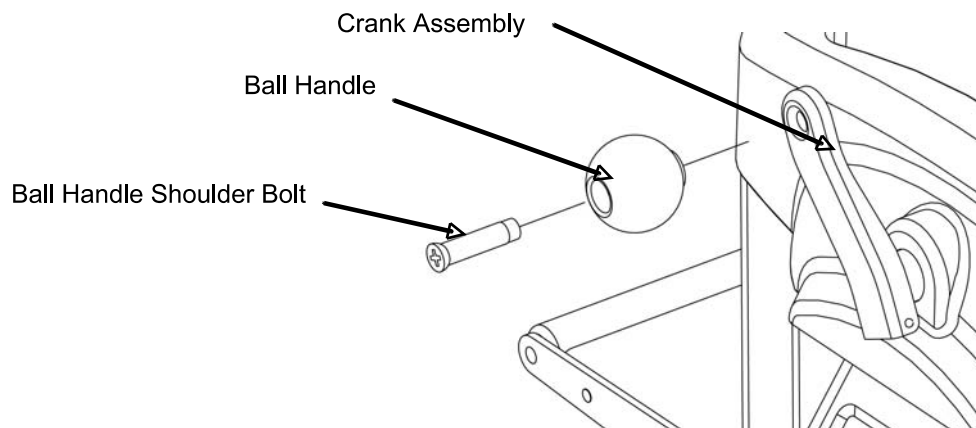

FIGURE 1: REMOVING THE BALL HANDLE
7. **Remove the ball handle.** Remove the ball handle from the crank lever using a Phillips screwdriver as shown in *Figure 1* . Do not remove the entire crank assembly from the machine.
- ✓ Crank Handle Ball and Shoulder Bolt (Figure 1)